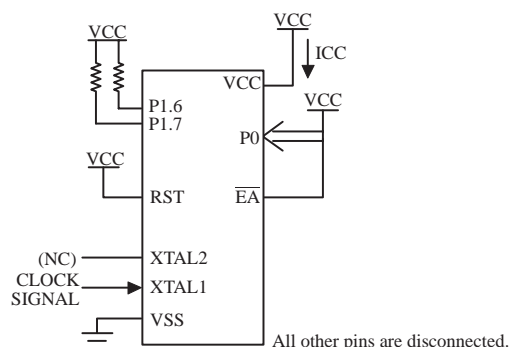
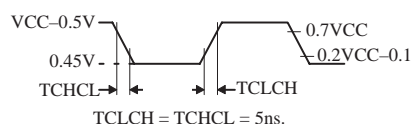

Figure 37 ICC Test Condition, Active Mode
Figure 40 Clock Signal Waveform for ICC Tests in Active and Idle Modes
- Operating ICC is measured with all output pins disconnected; XTAL1 driven with TCLCH, TCHCL = 5 ns (see Figure 40), VIL = VSS + 0.5V, VIH = VCC - 0.5V; XTAL2 N.C.; \overline{EA} = RST = Port 0 = VCC. ICC would be slightly higher if a crystal oscillator used (see Figure 37).